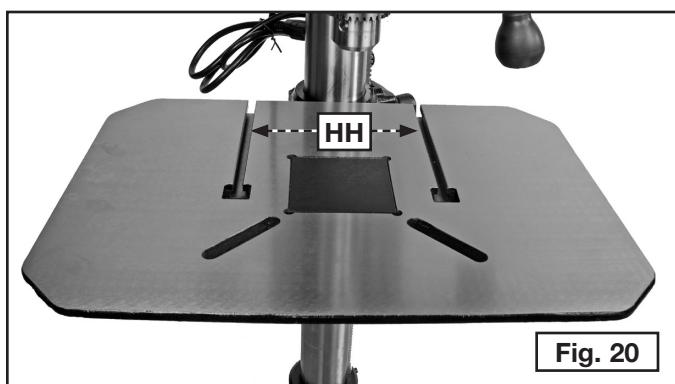

Fig. 20
The drill press table is fitted with two T-slots (HH) Fig. 20 for use with various drill press accessories (stop blocks, fences, or clamps). Use 5/16" T-bolts or 1/4-20 hex head bolts when attaching your accessory to the table.